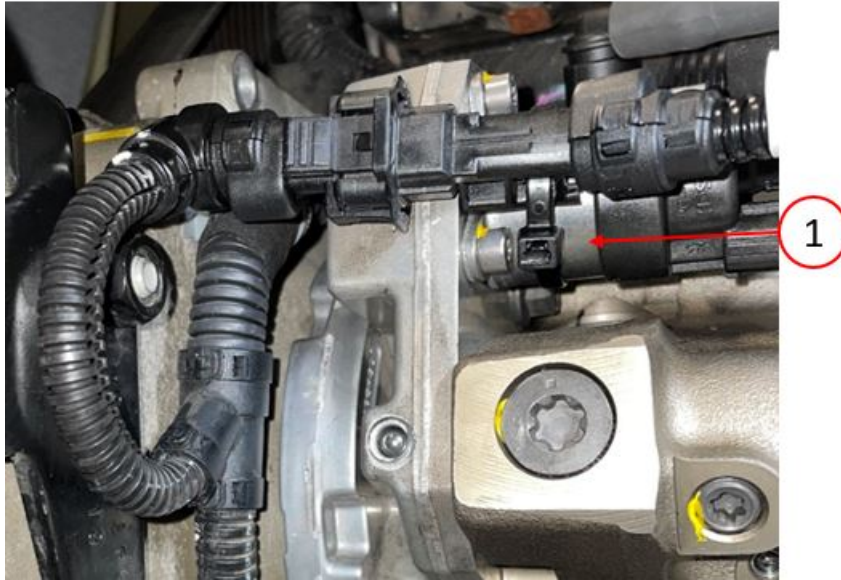

Fig. 16
49. Install and connect Engine Wiring Harness Jumper ******(Mopar PN 68573991AA /Supplier PN 5683566)****** to Fuel Quantity Solenoid. Connect the female side of the jumper harness to the engine wiring harness that originally attached to the Fuel Quantity Solenoid (Fig. 16) .